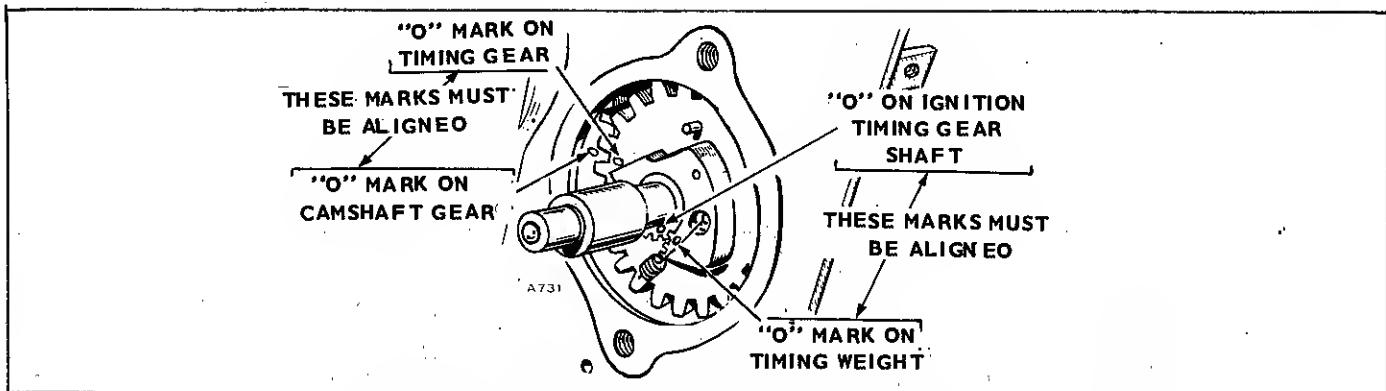

FIGURE 37. TIMING GEAR MARKS
1. Install springs on the weight assemblies. Install the cam on the gear shaft, being sure to align the timing marks, (Fig. 37) and install the cam spring. Weights should snap outward between 1000 and 1075 rpm. If necessary, adjust by lightly bending one or both spring anchor pins toward center of gear.
2. Install the spacer and thrust washer on the gear shaft assembly, and install the assembly into the gearcase; matching the timing marks on the timing gear and cam-shaft gear (Fig. 37)..